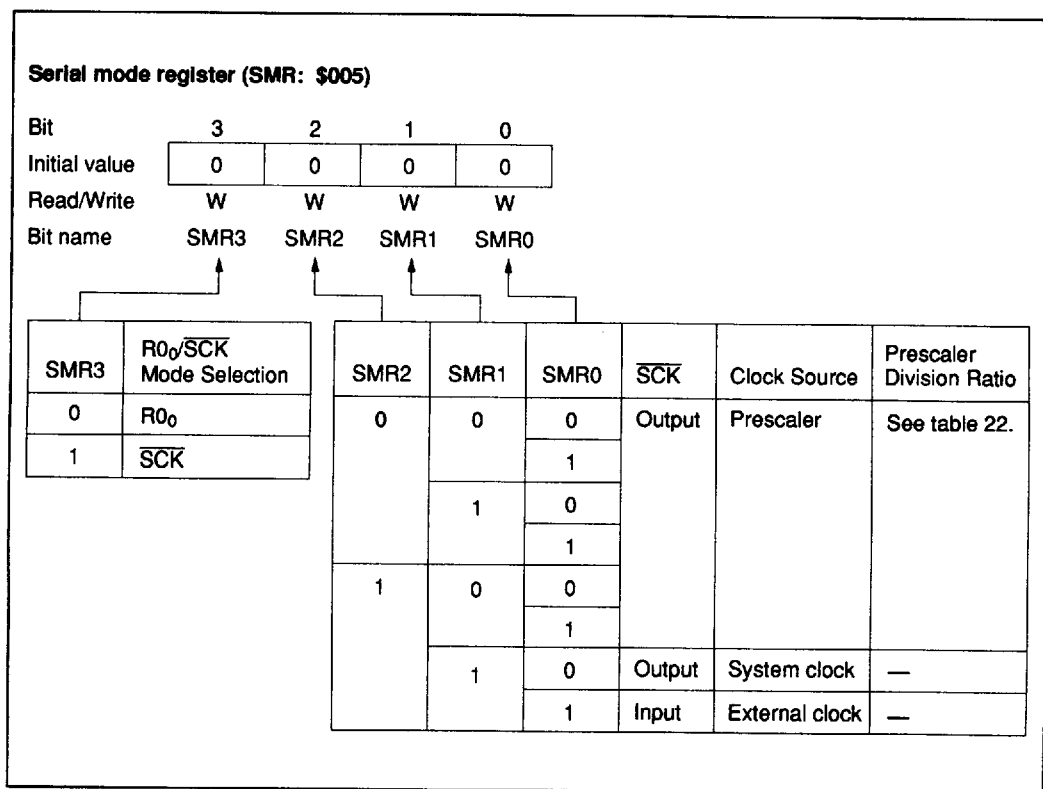

Figure 45 Serial Mode Register (SMR)
**Serial Mode Register (SMRA: \$005):** This register has the following functions (figure 45):